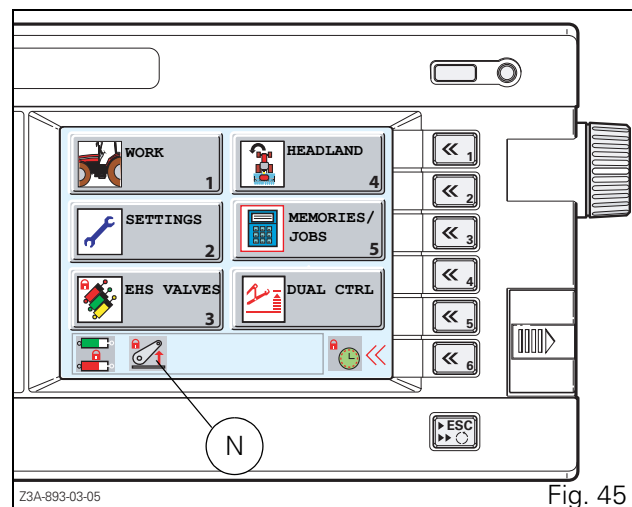

Fig. 45
To reactivate the linkage, move the switch (E) to the intermediate position, then to the lift position. Linkage is then brought back into operation and the padlock (N Fig. 45) in the Datatronic 3 window disappears, if this latter has been installed.